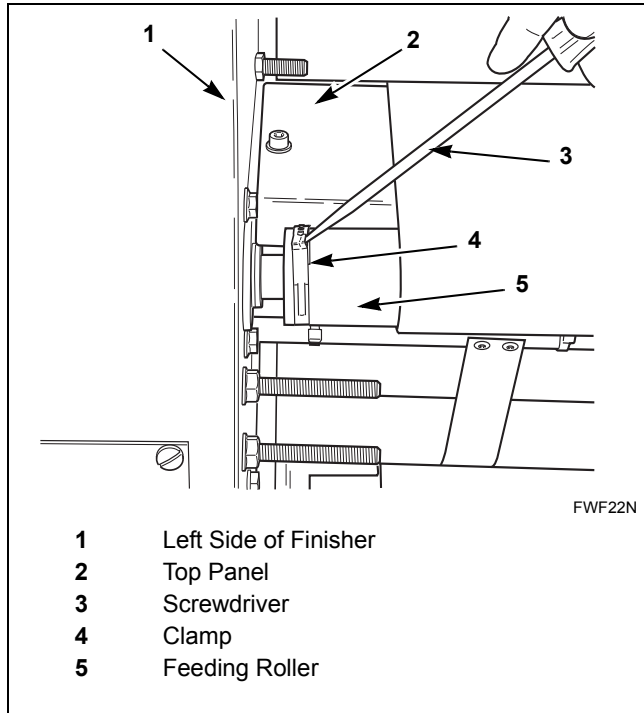

Figure 23
1. With a standard screwdriver, pop clamp open at left end of feeding roller. Refer to *Figure 23*.